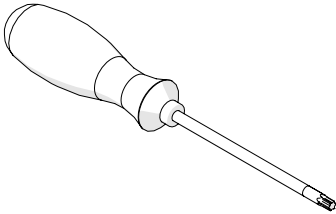

Fig. 41 - Torx driver: T30
- ▶ Torx driver: T30 (Fig. 41).